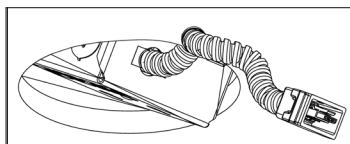

Figure 3
Step 3. Slide wiring compartment through ceiling cutout (Fig 3). Make sure to leave flexible conduit with connector accessible.